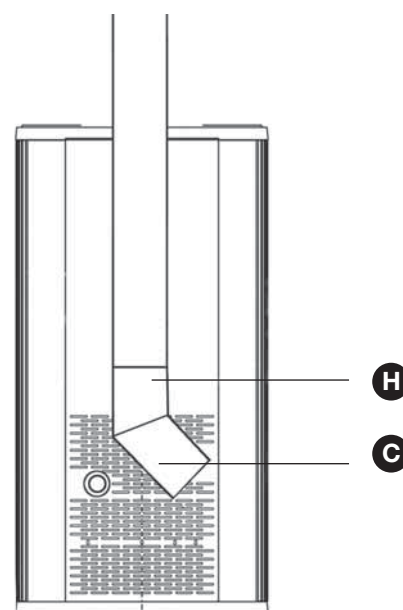

FIGURE 2
2. Attach the assembled “T” piece and centralizing bend to the vent outlet of the pellet fire and position it so the top of the centralizing bend is in the centre of the pellet fire and pointing vertically up towards the ceiling. (Refer to Figure 2) Secure in place using 4 x self tapping screws and silicone sealant.